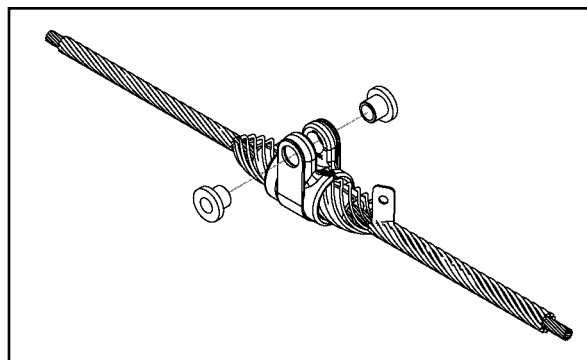

FIGURE 13
- 4.01 Once the strap is aligned with the housing, insert the flanged isolation bushings into the bolt holes of the strap and housing. (Figure 13)